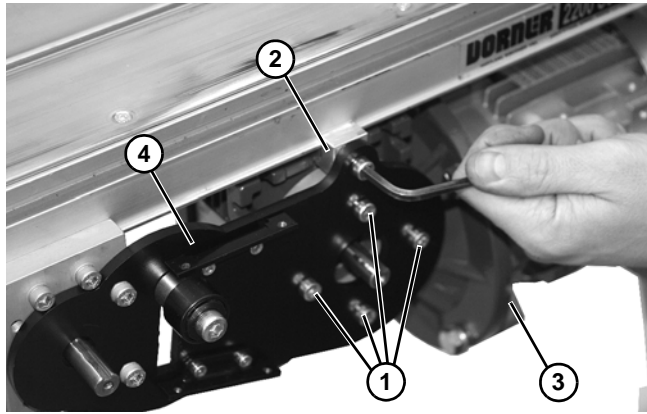

Figure 19
4. Remove four (4) gear reducer mounting screws (**Figure 19, item 1**) and retaining clip (**Figure 19, item 2**). Remove gearmotor (**Figure 19, item 3**) from mounting plate (**Figure 19, item 4**).